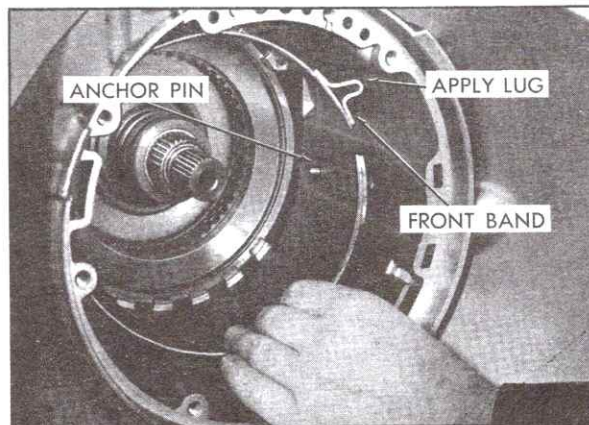

Fig. 7-96 Installing Front Band
2. Install front band with band anchor hole over band anchor pin, and apply lug facing servo hole, Fig. 7-96.